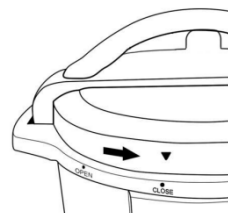

Figure 3
and ▼ on the edge of the lid (2) (Figure 3).